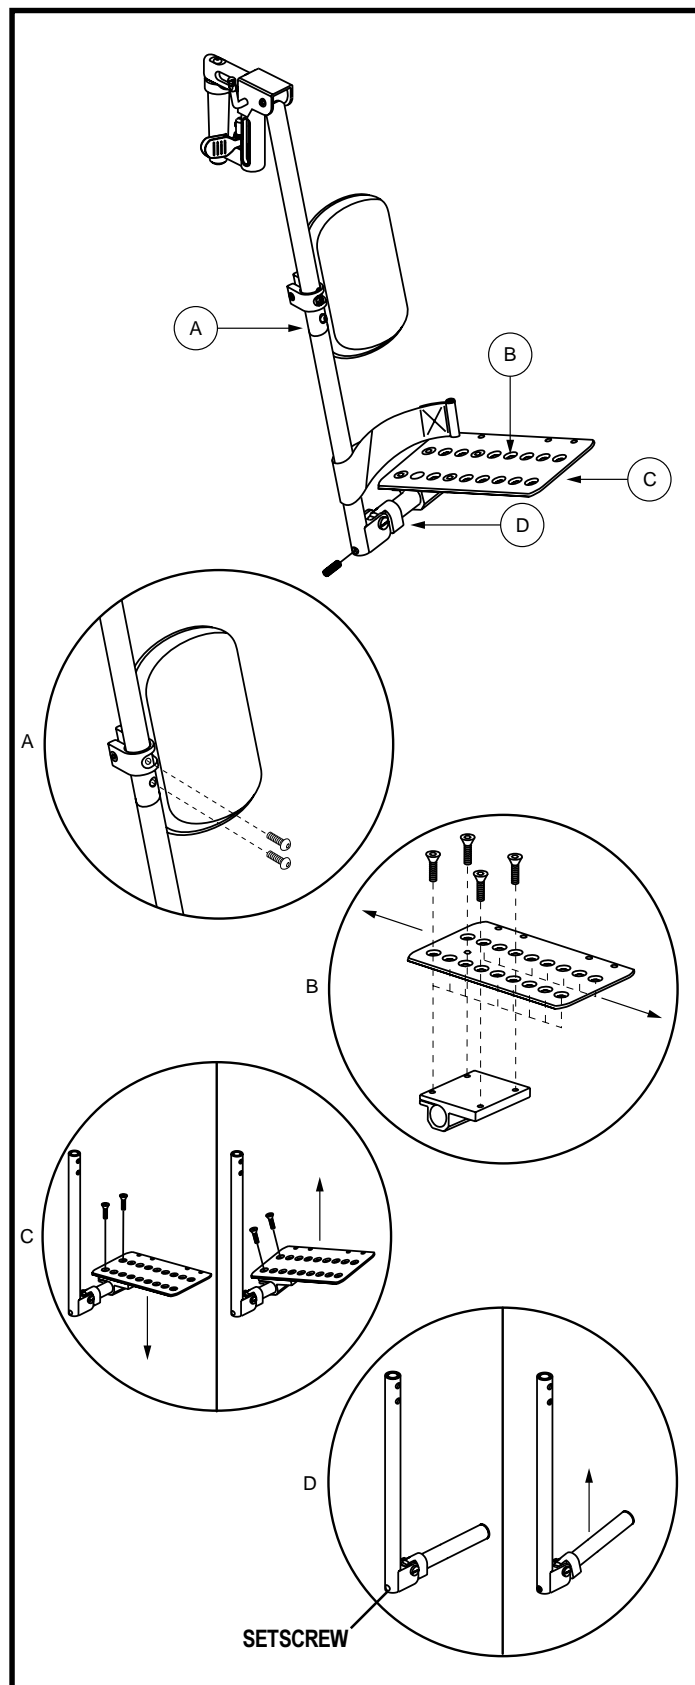

Figure 27. Multi-Axis Foot Plate (ELR Shown)
The multi-axis foot plate assembly can be installed on either a swing-away footrest or an elevating leg rest. The multi-axis foot plate has four adjustments: leg rest length (A), position (B), tilt (C) and angle (D). See figure 27.